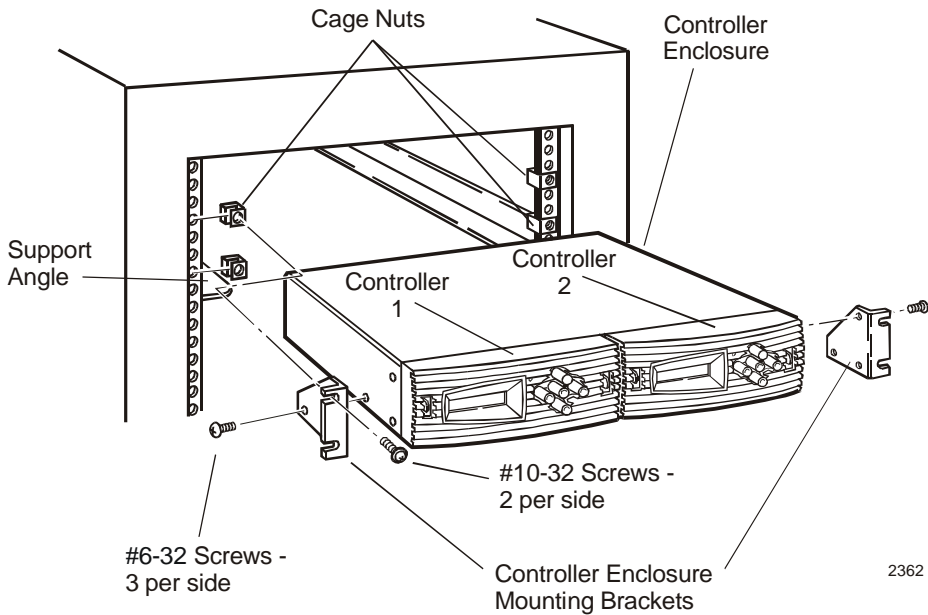

Figure 15. Installing the Controller Enclosure in a Ciprico (Hoffman) Rack
1. Attach the brackets on both right and left sides of the controller enclosure with three counter-sunk Phillips head 1/4" #6-32 screws, as shown in Figure 15.
2. Align the slots on the mounting brackets of the controller enclosure with the cage nuts as shown in Figure 15.
4. Secure the controller enclosure to the rack with four 1/2" #10-32 (2 per side) screws in the cage nuts as shown in Figure 15.